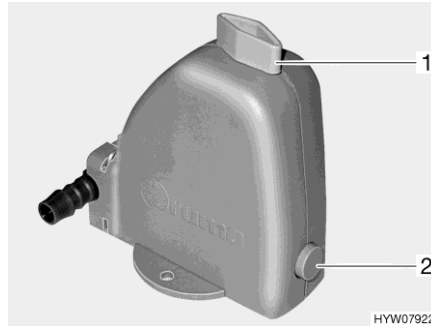

Fig. 81 Safety/drainage valve
The heater is equipped with a safety/drainage valve (Fig. 81). The safety/drainage valve prevents water for the production of hot water from freezing, when there is frost and the heater is not switched on.
- Close the safety/drainage valve. Turn the knob (Fig. 81,1) perpendicular to the safety/drainage valve and push the push button (Fig. 81,2) in.
- Open the safety/drainage valve. To do this turn the knob (Fig. 81,1) parallel to the safety/drainage valve. The push button (Fig. 81,2) jumps out. The domestic water container is emptied to the outside through the safety/drainage valve.